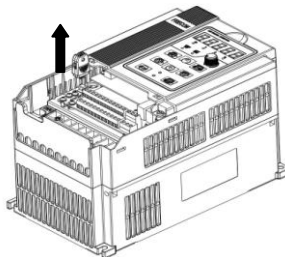

Figure B-4 Uploading and downloading module removal
Step 4: Unplug upload and download module from the inverter control board (As shown in figure B-4).